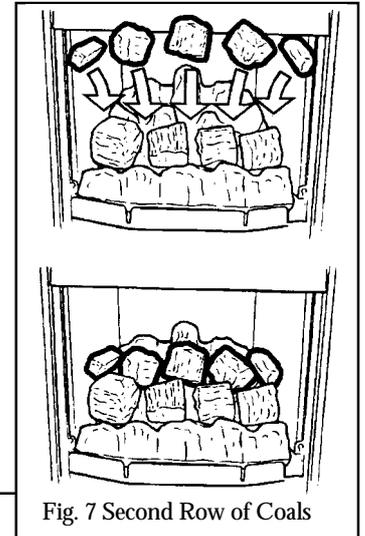

Fig. 7 Second Row of Coals
3.2 Place 3 of the medium size coals behind and approximately midway between the large coals as shown in figure 7. Place a "finger" coal at each end of the first two rows of coals. See figure 7.